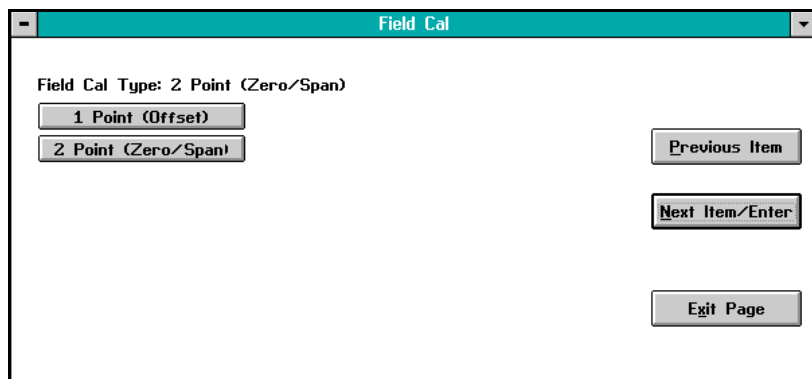

Figure 18: *Field Cal Type* Window
5. In the *Field Cal Type* window (shown in *Figure 18 on page 33*), click on either the 1-Point or 2-Point button. Then, click on any button on the right to return to the *Configure Cal* window.
A typical *Field Cal Type* window is shown in *Figure 18* below.